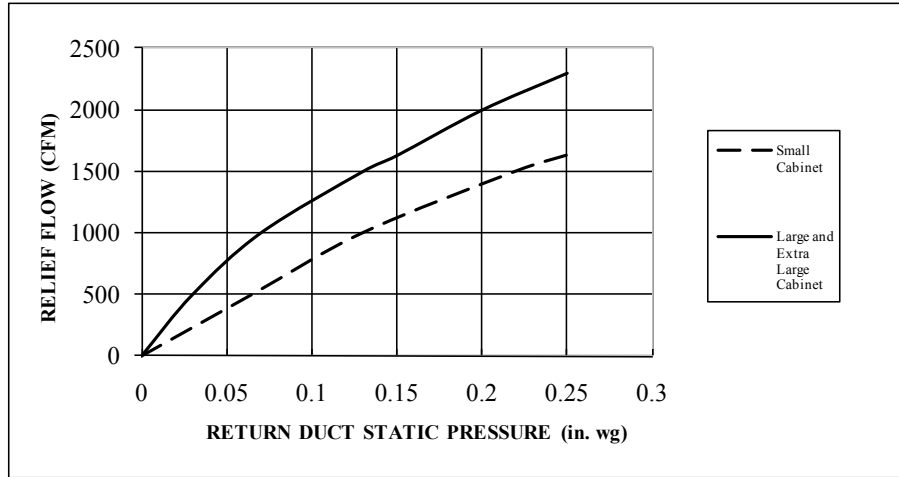

Fig. 9 - Barometric Relief Flow Capacity
9. For ECD-SRT**C*-D0D* remove and save the 12-pin jumper plug from the unit wiring harness (located in the upper left corner of the unit). Insert the economizer plug into the unit wiring harness. Refer to Fig. 9 for typical wiring diagram.